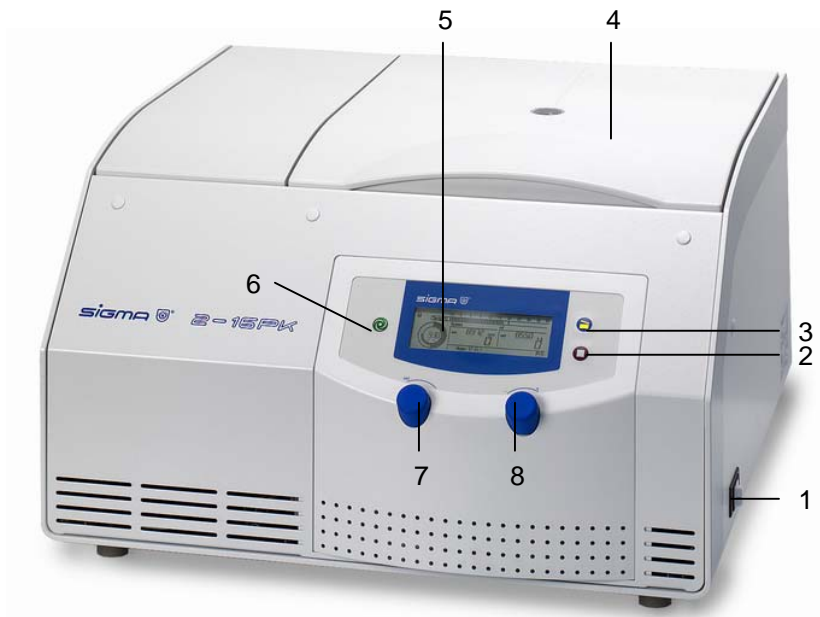

Fig. 5.1: Total view of the centrifuge
- Press the mains power switch on the right side of the front (see Fig. 5.1, page 25).